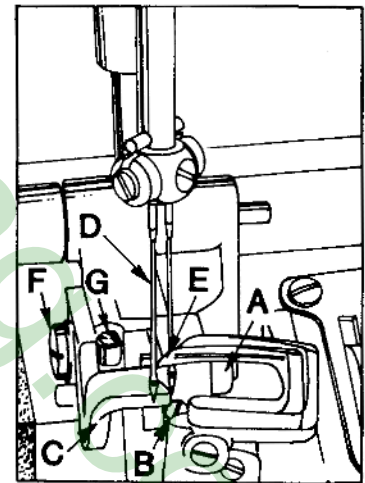

Fig. 9
Rotate handwheel in operating direction to position looper point at the right hand side of needle. At this time the needle guard (C, Fig. 9) should be at its extreme end of forward travel. Set the guard front to back to just touch the needles, up to .002" (.05mm) deflection is permissible on one or two needles. Guard should be set as low as possible, yet have its vertical face approach approximately 3/64 +/- 1/64 inch (1.2mm +/- .4mm) above the needle point. To move needle guard forward or backward, loosen the screw (F), move needle guard as required, and retighten screw. To raise or lower needle guard, loosen screw (F), and turn screw (G) clockwise to lower needle guard or counterclockwise to raise it. Retighten screw (F) after guard is properly set.
Parallel adjustment can be made by loosening nut (A, Fig. 9) and turn screw (B) clockwise to lower front of feed dog, counterclockwise acts the reverse. When properly set, retighten nut (A).